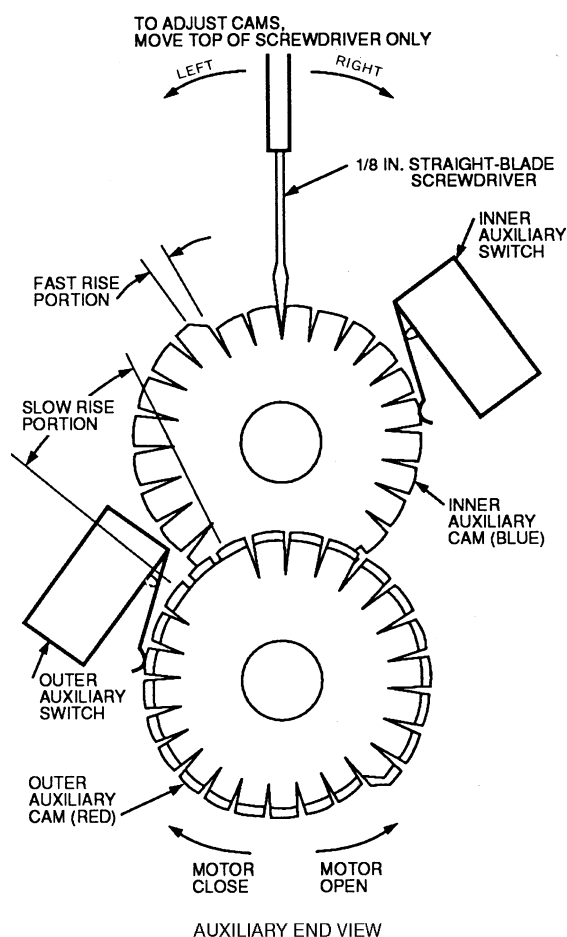

Fig. 37 — Auxiliary Switch Adjustment
2. a. For size 034-048 units: Remove damper motor top cover and verify that pointer points at number 35. If installing new motor, use screwdriver to turn blue cam so pointer lines up with the number 35. See Fig. 37.
b. For size 054-104 units: Remove damper motor top cover and verify that pointer points at number 63. If installing new motor, use screwdriver to turn blue cam so that pointer lines up with the number 63. See Fig. 37.
5. If motor no. 2 was energized too soon (Step 4 of the test above was yes), turn blue cam one click to left (see Fig. 37). If motor no. 2 was not energized (Steps 4 and 5 of the test above were no), turn blue cam one click to the right (see Fig. 37).